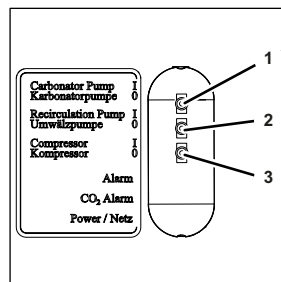

Fig. 16
2. Turn the compressor switch (Fig. 16/3) to position "I".
3. Turn the carbonator pump switch (Fig. 16/1) to position "I".
4. Turn the circulation pump switch (Fig. 16/2) to position "I".